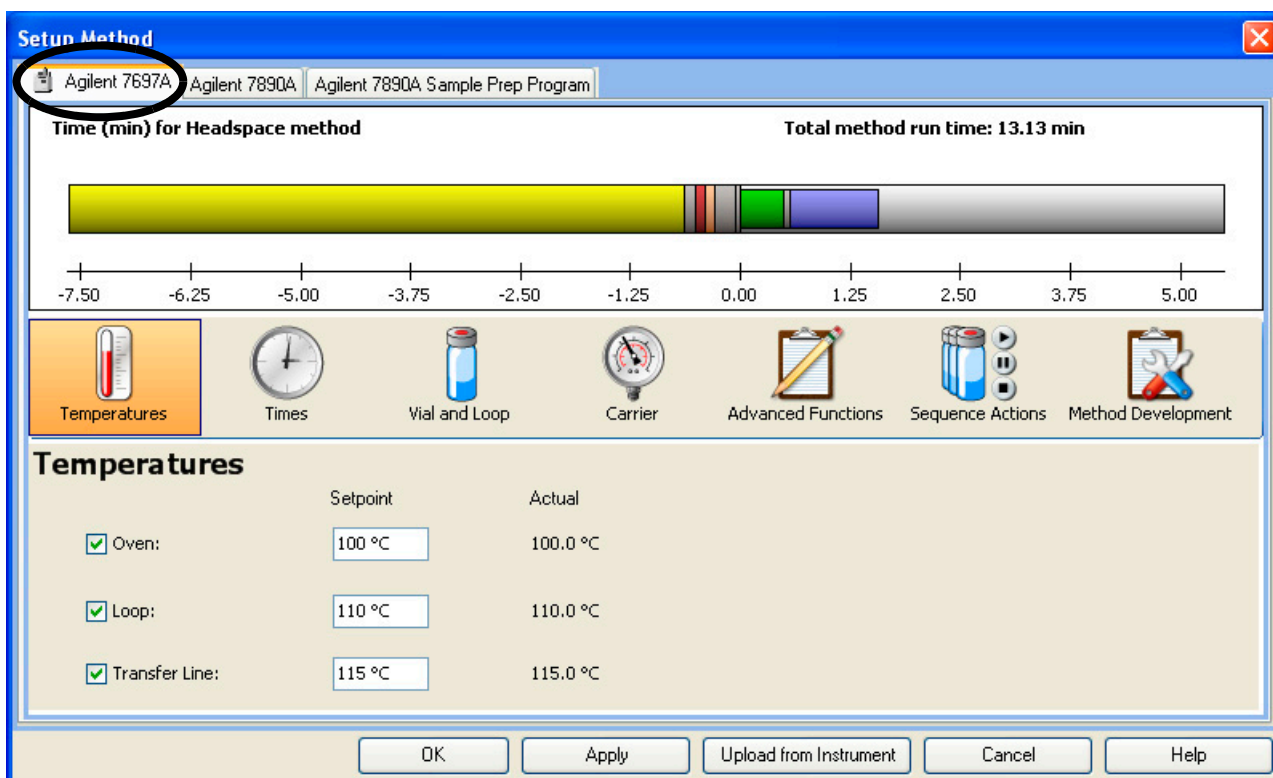

**Figure 13** The Agilent 7697A Method Editor
- 2 The Method Editor opens (Figure 13). Select the **Agilent 7697A** tab to open the method parameters for the 7697A Headspace Sampler.